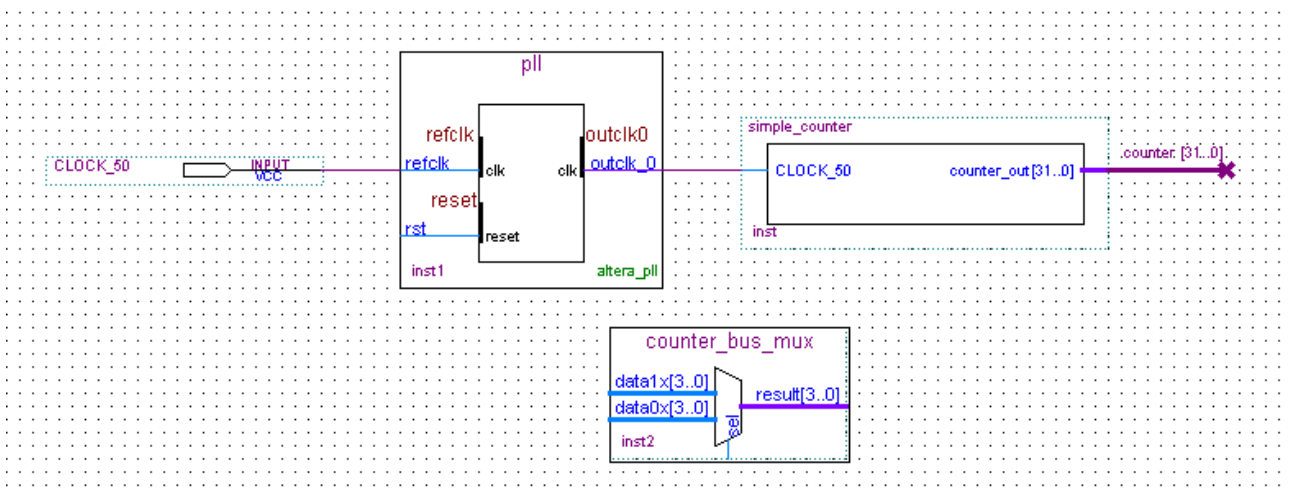

Figure 3-24 Place the lpm_mux symbol
12. Place the counter_bus_mux symbol below the existing symbols on the BDF. See **Figure 3-24**